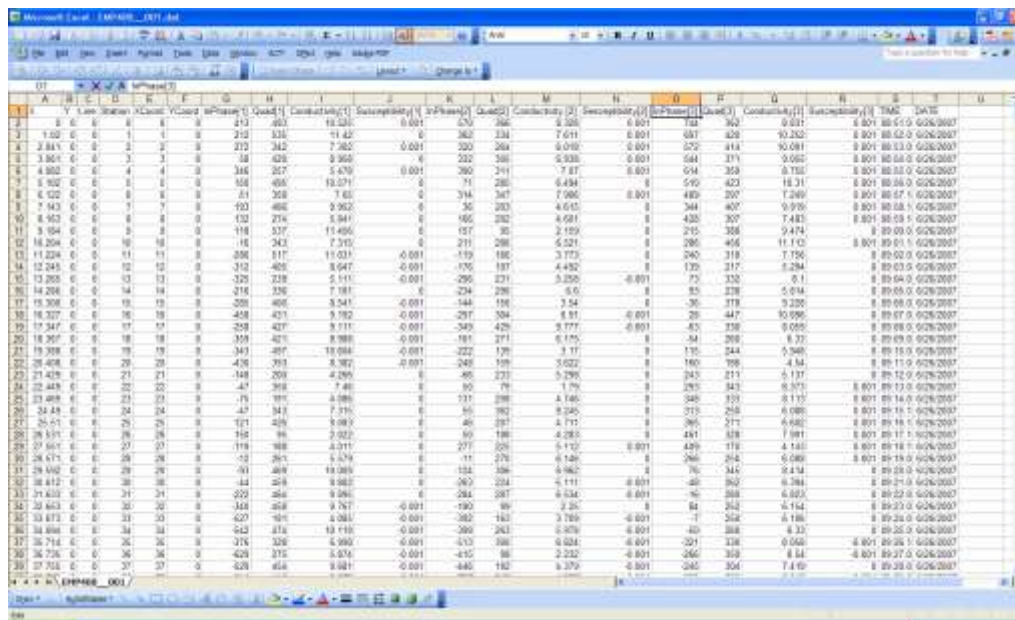

Figure 96: EMP400 *.EMI File converted to a Surfer *.DAT file.
7. This interpolated file is now ready to be gridded and contoured. This example data file shows interpolated X (position) data in column A and Y (line) data in column B for the positions of each data point. Figure 96 illustrates an interpolated and converted SURFER *.dat file type.